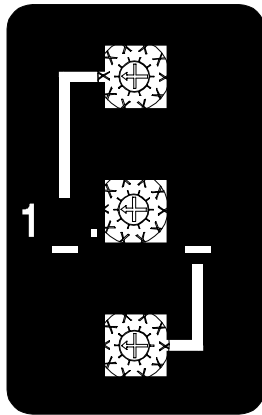

Figure 8.1
pointing to the desired number. Set the switches in the following manner: If the desired battery voltage is 13.38 volts, set the top switch to 3, the middle switch to 3, and the bottom switch to 8 (see the figure 8.1). This will provide you with the proper charging voltage. The tens digit is always a one (1) and cannot be changed. **BE SURE EACH SWITCH IS SET ON A NUMBER AND NOT BETWEEN NUMBERS.** If a switch is set between numbers, the output current will go to zero and the yellow charging LED will flash.